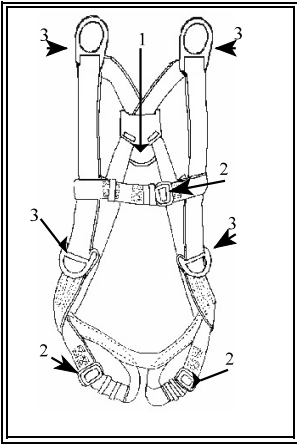

figure 1
In order to ensure proper performance of a full body harness, it must be adjusted to fit the user's body size (see figure 1). The harness should be snug but not tight on the users body; the seat strap should fit at the bottom of the buttocks and stay in place during movement. Place the harness on, over the shoulders, with the sliding D-ring (1) in the back. All straps should be connected and tightened to be snug but not tight on the body. If the user's harness will not adjust to fit, a different size harness is needed.